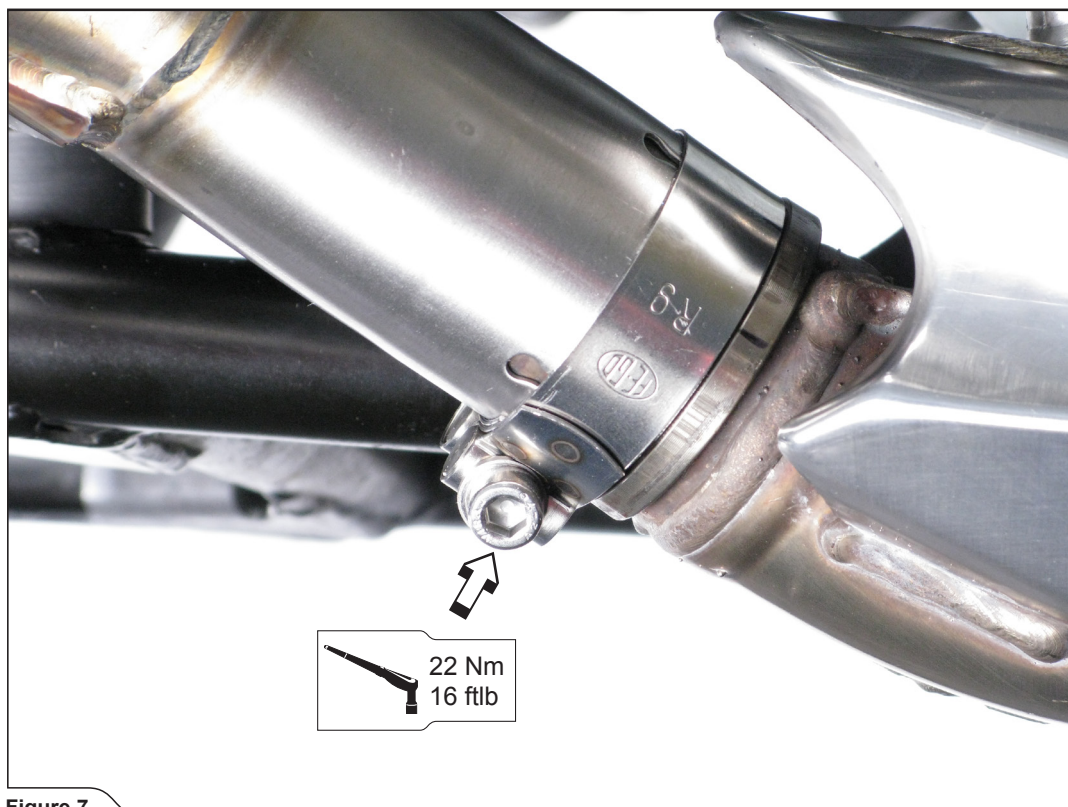

Figure 7
4. Tighten the metal clamp to a specified torque (**Figure 7**).